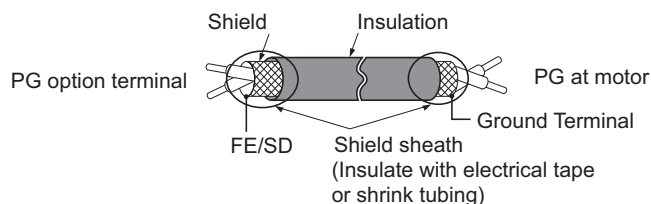

Figure 8.6 Preparing Ends of Shielded Cable
2. There are two screw holes on the drive for use as ground terminals (I). When connecting three options, two ground wires will need to share the same drive ground terminal.
4. Prepare and connect the wire ends as shown in Figure 8.6 and Figure 8.7. Refer to Wire Gauges, Tightening Torque, and Crimp Terminals on page 349 to confirm that the proper tightening torque is applied to each terminal. Take particular precaution to ensure that each wire is properly connected and wire insulation is not accidentally pinched into electrical terminals.